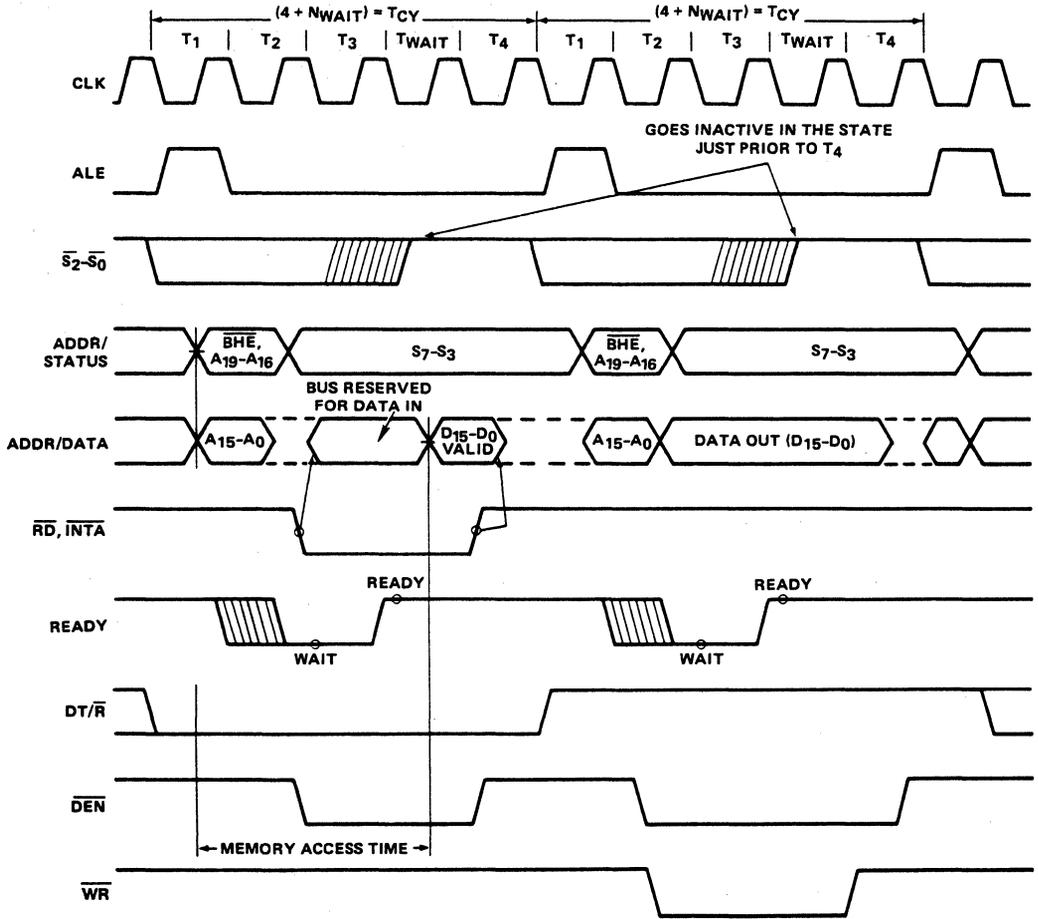
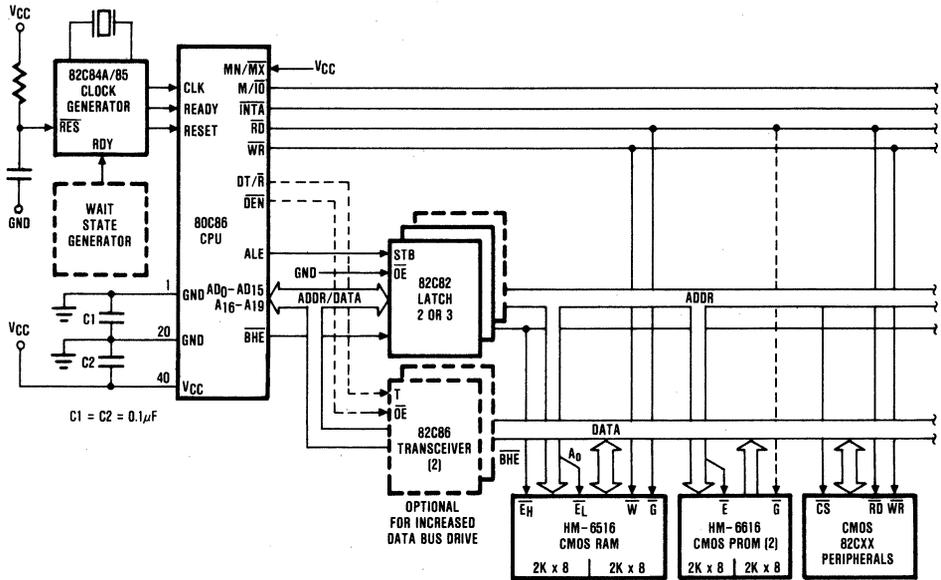

FIGURE 3. BASIC SYSTEM TIMING
FIGURE 6A. MINIMUM MODE 80C86 TYPICAL CONFIGURATION
The demultiplexed mode requires two 82C82 latches (for 64K addressability) or three 82C82 latches (for a full megabyte of addressing). An 82C86 or 82C87 transceiver can also be used if data bus buffering is required. (See Figure 6a.) The 80C86 provides DEN and DT/R to control the transceiver, and ALE to latch the addresses. This configuration of the minimum mode provides the standard demultiplexed bus structure with heavy bus buffering and relaxed bus timing requirements.
Each processor bus cycle consists of at least four CLK cycles. These are referred to as T₁, T₂, T₃ and T₄ (see Figure 3). The address is emitted from the processor during T₁ and data transfer occurs on the bus during T₃ and T₄. T₂ is used primarily for changing the direction of the bus during read operations. In the event that a "NOT READY" indication is given by the addressed device, "Wait" states (TW) are inserted between T₃ and T₄. Each inserted wait state is the same duration as a CLK cycle. Periods can occur between 80C86 driven bus cycles. These are referred to as "idle" states (TI) or inactive CLK cycles. The processor uses these cycles for internal housekeeping and processing.
Typical system configurations for the processor operating in minimum mode and in maximum mode are shown in Figures 6A and 6B, respectively. In minimum mode, the MN/MX pin is strapped to VCC and the processor emits bus control signals (e.g. RD, WR, etc.) directly. In maximum mode, the MN/MX pin is strapped to GND and the processor emits coded status information which the 82C88 bus controller uses to generate MULTIBUS compatible bus control signals. Figure 3 shows the signal timing relationships.